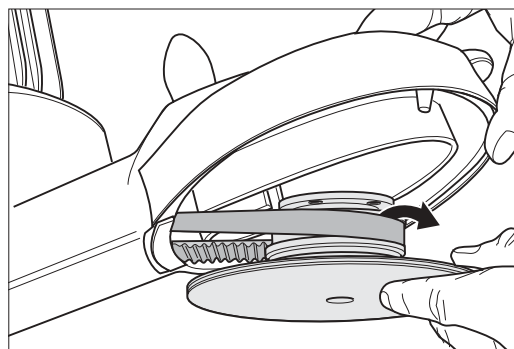

Fig. 73: Inserting the belt disc into the V-belt.
- 17 At the front of the attachment, insert the belt pulley of the bearing unit of the sanding disc wheel into the V-belt (Fig. 73).